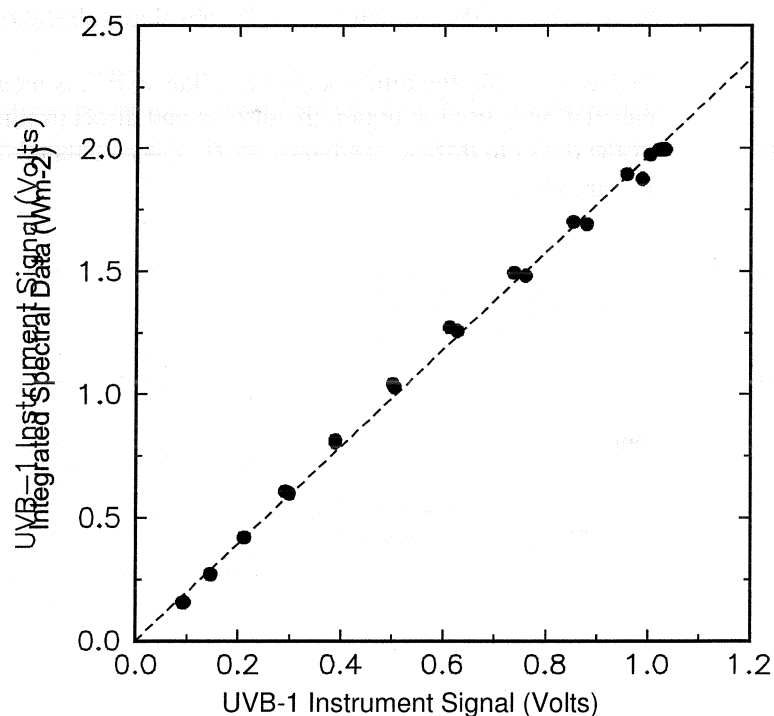

Figure 4-2. UVB-1 Instrument Readings Plotted Against the Integrated Spectral Data (right-hand side of eq. (7))
Figure 4-2 shows UVB-1 instrument readings plotted against the right-hand side of eq. (7). Concurrently measured spectral irradiances and eqs. (8) and (9) were used in evaluation of eq. (7). The relationship between the two quantities is nearly linear, with an r^2 value of 0.999. The calibration constant K' is the slope of the linear regression line fitted to the points. The best fit line has the slope 1.968 ± 0.011 (watt/m²)/volts. Given the 5% uncertainty of the spectral irradiance measurement, in this case the best value for K' is 1.97 ± 0.16 (watt/m²)/volts.